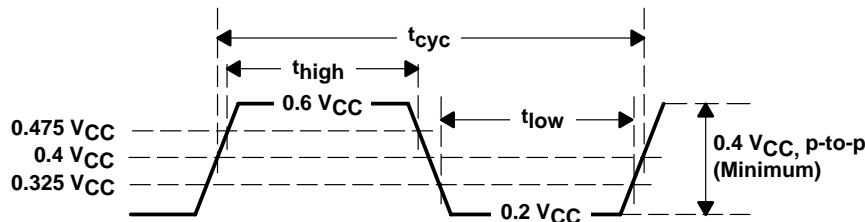

Figure 9–2. CardBus PC Card Clock Waveform
- Rise and fall times are specified in terms of the edge rate measured in V/ns. This slew rate must be met across the minimum peak-to-peak portion of the clock waveform (see Figure 9–2).